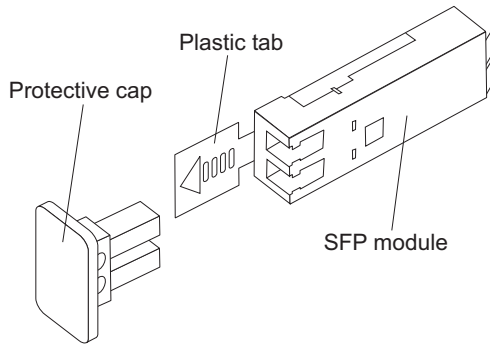

Figure 34. SFP module and protective cap
2. Remove the protective cap from the SFP module, as shown in Figure 34 on page 60. Save the protective cap for future use.
2. If necessary, remove the protective cap from the SFP module, as shown in Figure 34 on page 60. Save the protective cap for future use.